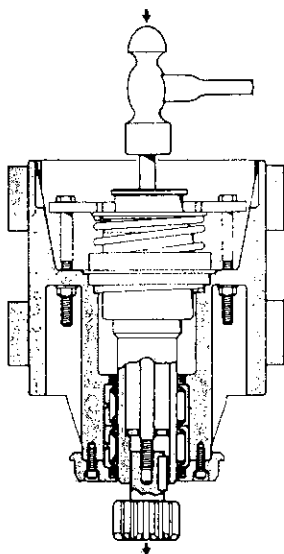

Figure 5.6
8. Pull the facet drive assembly (31) from the drive housing adapter (35).
9. Remove the drive return spring (32) from the facet drive assembly.
10. Remove the six bearing cover screws (45) and remove the bearing cover (44).
11. Remove and discard the facet drive assembly seal (43) in the bearing cover.
12. Place the drive housing adapter in an arbor and press out the two facet drive bearings (41) (42) and seal (40), as shown in Figure 5.6.